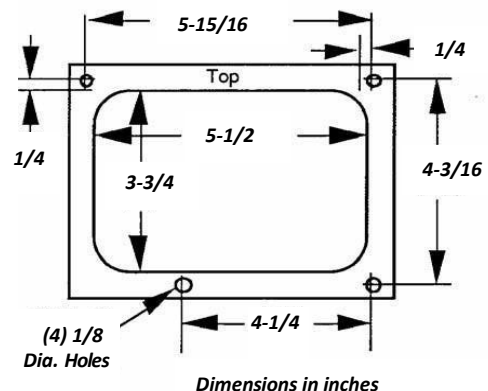

Figure 1
2. Using the template provided (and shown in figure 1), remove the adhesive from the back of the template and apply to the duct.
3. Drill the (4) 1/8” diameter hole for the mounting screws.
5. Use the (4) of the sheet metal screws provided to secure the Humidistat to the duct.